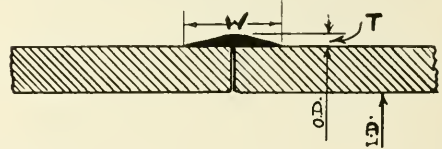

FIGURE 3.—A TYPICAL CROSS-SECTION OF BRONZE WELD AS APPLIED TO PIPE. (By Courtesy of the Acetylene Journal.)
1. The width W (Figure 3) of the Tobin bronze
2. The thickness T (Figure 3) of the Tobin bronze weld on cast iron should vary in direct proportion to the thickness of the cast iron pipe and for a maximum strength weld should not be less than 3.16 times nor more than $\frac{1}{4}$ times the thickness of the pipe.